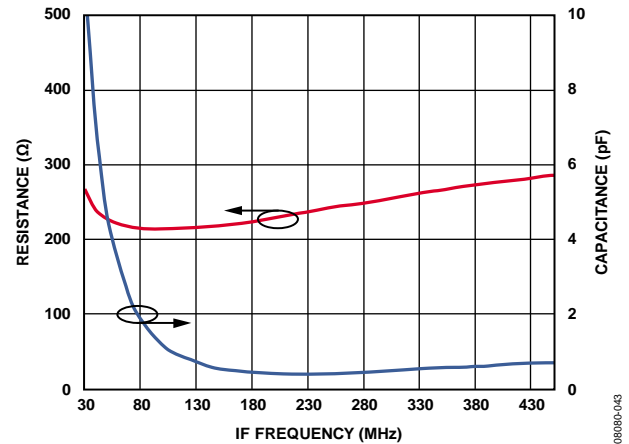
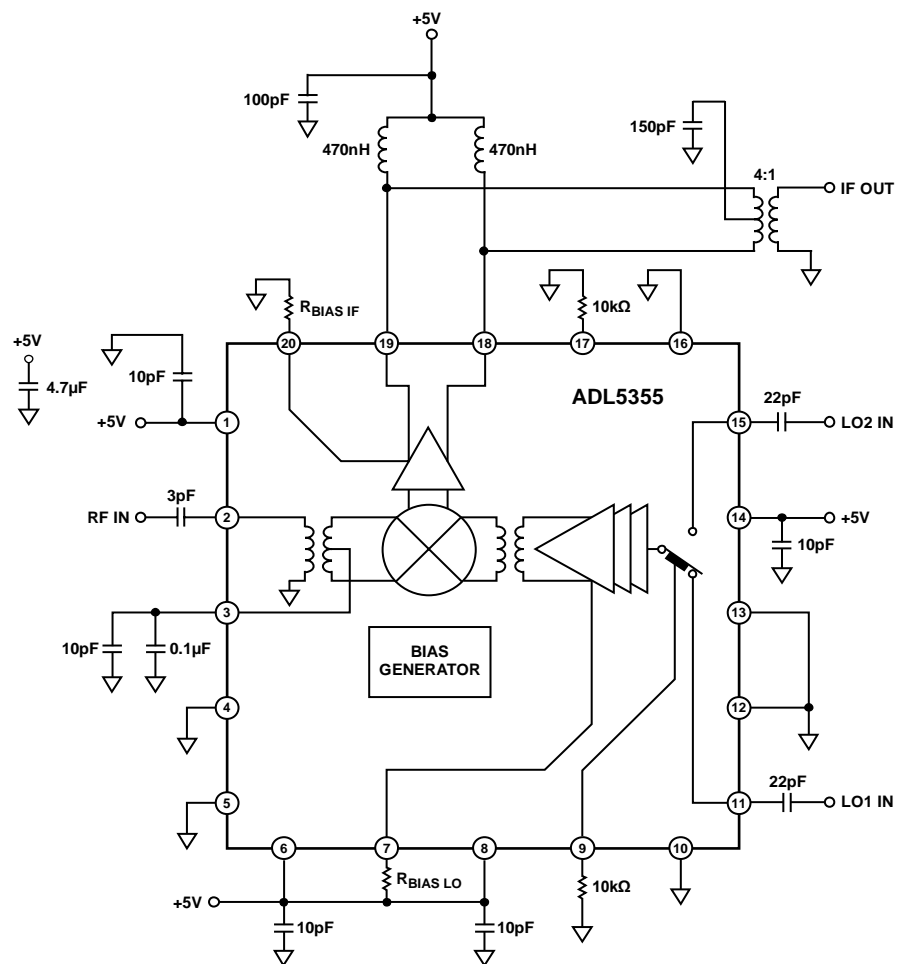

Figure 30. IF Port Return Loss
Figure 51. Typical Application Circuit
The ADL5355 mixer is designed to downconvert radio frequencies (RF) primarily between 1200 MHz and 2500 MHz to lower intermediate frequencies (IF) between 30 MHz and 450 MHz. Figure 51 depicts the basic connections of the mixer. It is recommended to ac-couple RF and LO input ports to prevent non-zero dc voltages from damaging the RF balun or LO input circuit. The RFIN capacitor value of 3 pF is recommended to provide the optimized RF input return loss for the desired frequency band.
The real part of the output impedance is approximately 200 Ω , as seen in Figure 30, which matches many commonly used SAW filters without the need for a transformer. This results in a voltage conversion gain that is approximately 6 dB higher than the power conversion gain, as shown in Table 3. When a 50 Ω output impedance is needed, use a 4:1 impedance transformer, as shown in Figure 51.